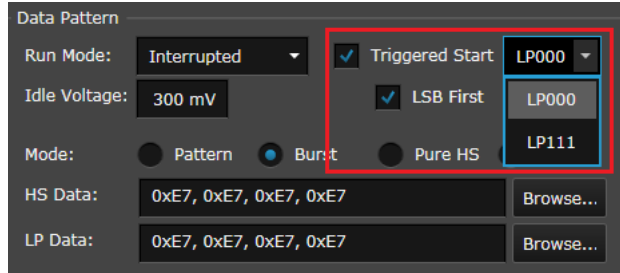

Figure 24 Activating Triggered Start on the user interface
- select the Low Power state from the drop-down options that must be used in the initial looped block. See Figure 24.